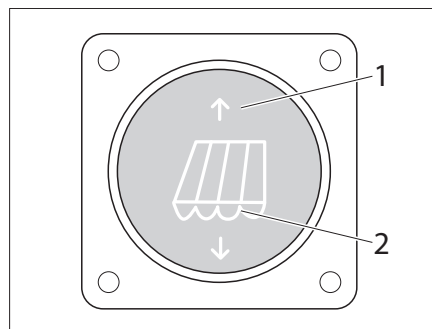
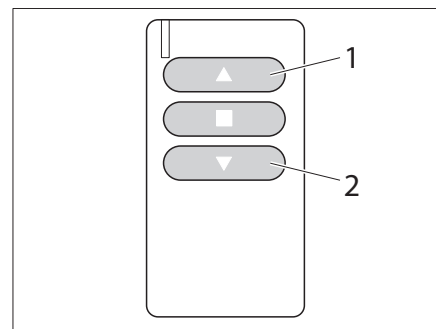

Fig. 38 Switch for electric awning
Fig. 39 Remote for electric awning
The awning is also available in an electrically powered design. It is controlled with a switch (Fig. 38) or a remote (Fig. 39).
- Press button (Fig. 38/1) or button (Fig. 39/1). The awning retracts.
- Press button (Fig. 38/2) or button (Fig. 39/2). The awning extends.